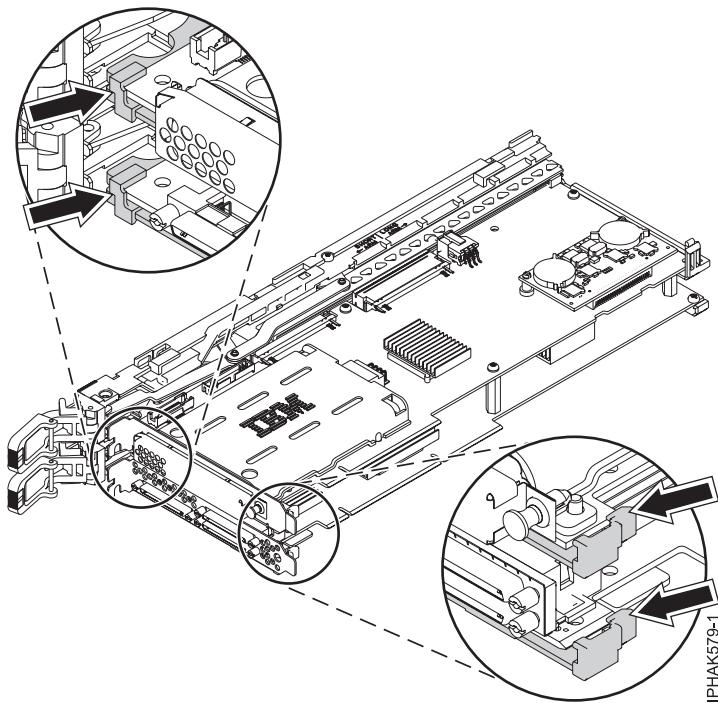

Figure 71. Detaching the corners of the cassette assembly
- a. Remove the top corner of the double-wide adapter tail stock from the notches in the cassette assembly. Then move the double-wide adapter tail stock up to free the bottom of the double-wide adapter tail stock from the cassette assembly. See Figure 71.